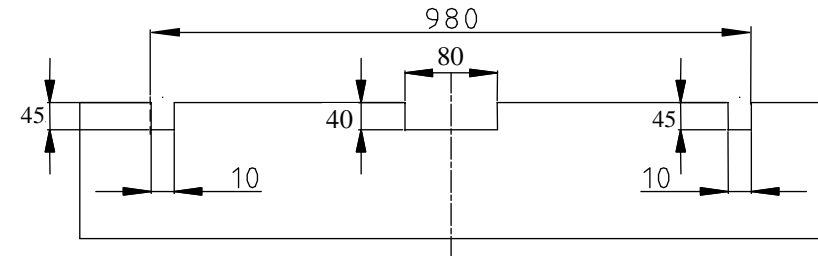

Fig.2
4. Fix bumper after cut his fragment – see fig. 2 (inside, central part).
5. Fix body of the automat (pos. 16) and the socket plate (pos. 3) using bolts M12x25mm (pos. 7) from accessories. Place tow-ball (pos. 2) according to supplied instruction.